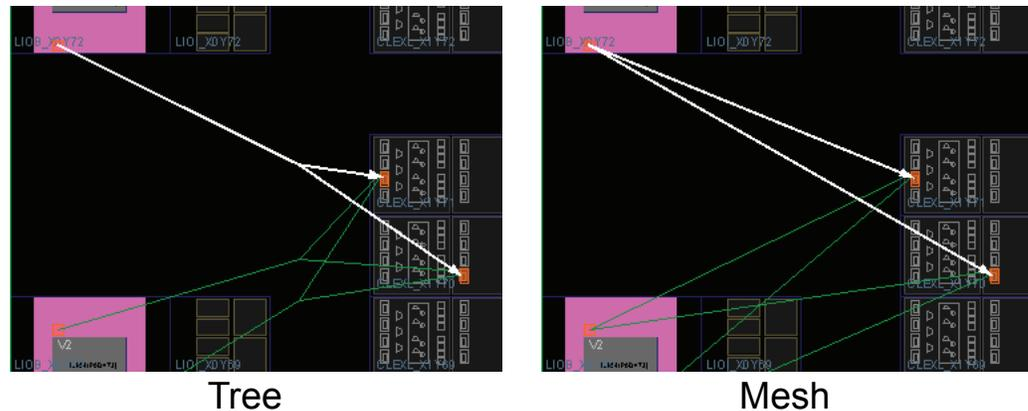

Figure 4-44: Draw Nets As
- **Nets:** Draw nets as a mesh or tree, as shown in Figure 4-44, page 141.